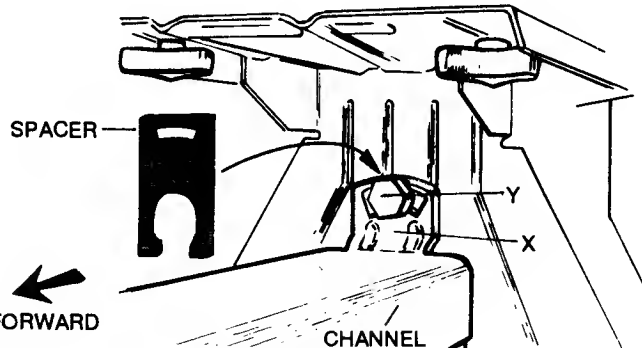

FIG. 8 - BELT ADJUSTMENT
With the mower deck in the #5 height position and the blade in the ON position, check the distance between the inside surfaces of the belt as shown in FIG. 9. The belt tension is adjusted by changing the "distance" between the front axle and the rear case. Remove the shoulder bolt (Y) (with the two metal spacers) from the main channel tab (X) and pull the front assembly **FORWARD**, increasing the belt tension until the correct amount is achieved. Then remove one or more spacers (as needed) from the hardware bag and align the spacer(s) behind main channel tab (X) and over the tube below it. Insert the shoulder bolt (without the two metal spacers) through the matching holes in spacer(s) and tab (X), and screw it into the front of the rear case - securely tighten! Refer to FIG. 8.